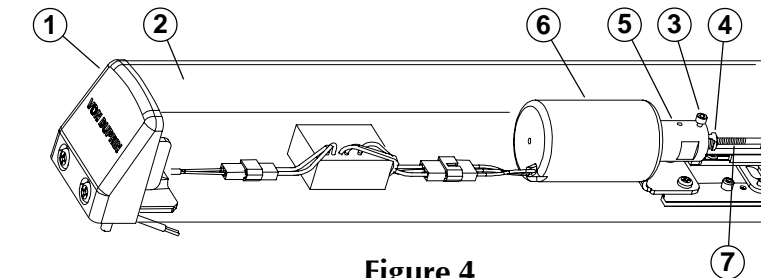

Figure 4
- C. Adjust solenoid if dogging rod is too long** (see Figure 4):
1. Remove end cap ① and dogging cover ②.
2. Loosen cap screw ③.
3. Hold plunger ⑤ depressed in solenoid housing ⑥.
- D. Solenoid adjustment if dogging rod adjustment is too short** (see Figure 4):